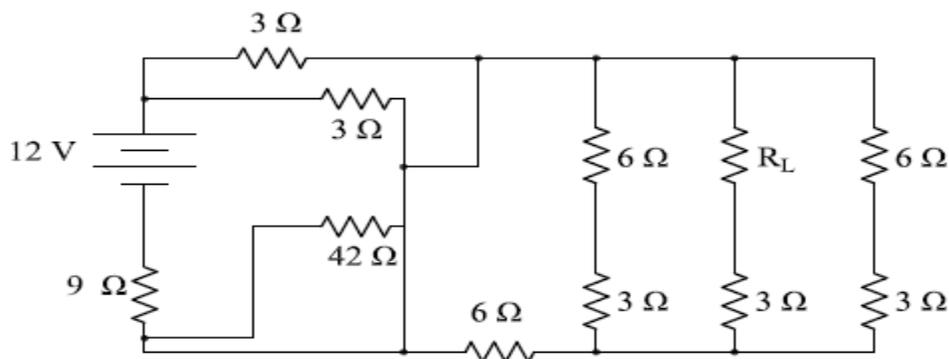

Fig.5
3. Using Thevenin's Theorem, determine the voltage across R_L , of the network shown in Fig.5